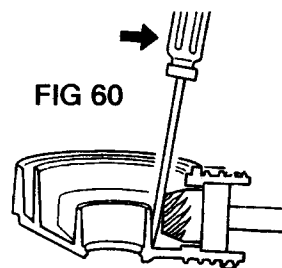

FIG 60
6. Using a screwdriver, lever pinion back, turn screwdriver on edge to force back further (Fig. 60 & 61).
6. Using a screwdriver, lever pinion firmly back onto bearing locating screw and tighten nut (Fig. 60 & 61).